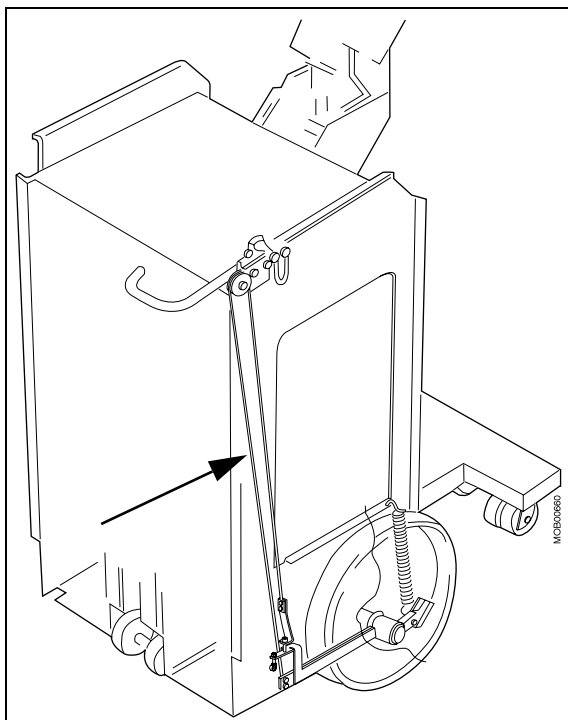

Fig. 7:
- The brake force can be increased by increasing the tension on the brake cable (Fig. 7 / p. 30). Additional information can be found in the section on "Adjustment of the hand brake/parking brake" in the Service Instructions.